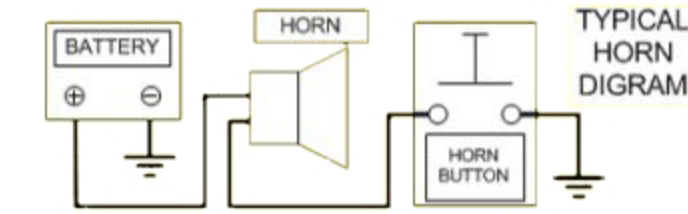

Figure 7
**STEP 30.** Connect the ORANGE horn wire from TCM4663 to the horn circuit. **Reference Figure 7.**